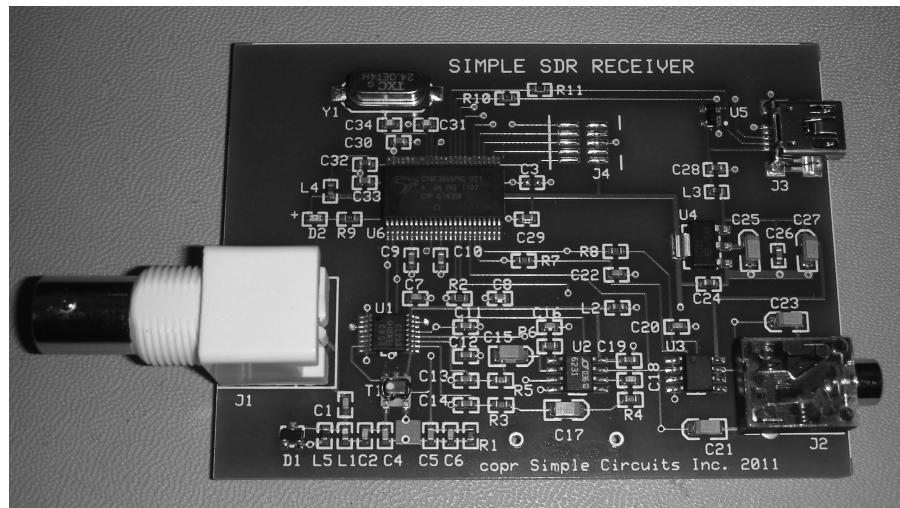

Figure 1 — The complete receiver fits on a 3.2 by 2.3 inch circuit board.
The receiver should be used for casual, conversational listening; it is not intended as a higher performance receiver for DX use. It was designed to use a minimum number of components, to be physically small and easy to operate. An LCD and controls to select the frequency and modes of operations were considered, but the design would have fewer parts and cost less if a personal computer (PC) is used for all user control. Since the PSoC has a USB port, the receiver can connect to the PC with a USB cable and take power from the PC over the USB cable, saving a power jack, and external power source. Control of the receiver is accomplished by having the receiver USB port appear as a standard com port to the PC. The *Ham Radio Deluxe (HRD)* program works perfectly to control this receiver. See Figure 1.